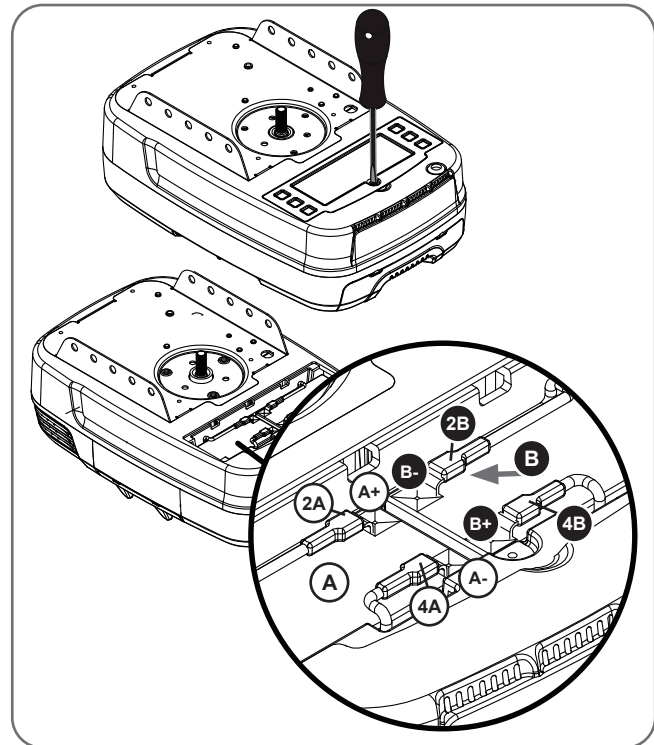

Fig.6.7.1
- a. Remove the screw and open the cover to the batteries. **(Fig.6.7.1)**